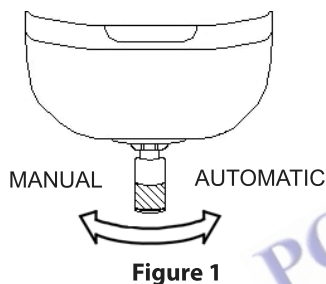
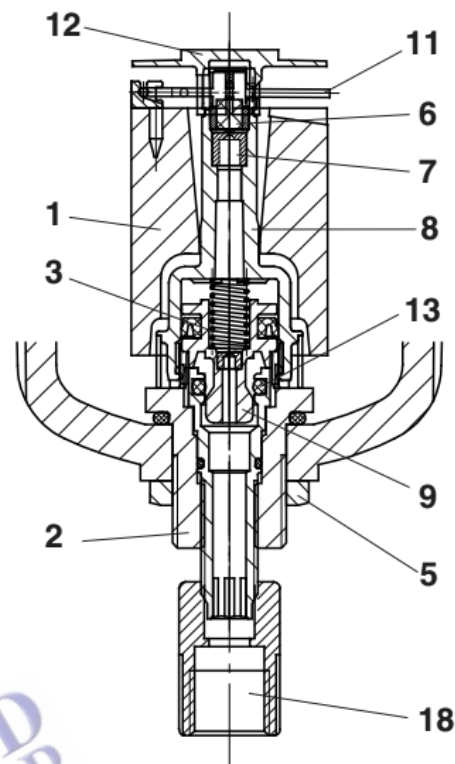

Figure 1
Figure 2
- Twist the drain stem (No. 18 in Figure 2) to set for AUTOMATIC (Normal) or MANUAL (Test) operation (See Figure 1 below).
Before first-time use, and after maintenance, the drain stem (See 18 in Figure 2) should be twisted fully clockwise to provide AUTOMATIC operation (See Figure 1).
Method of Operation (See Figure 2)